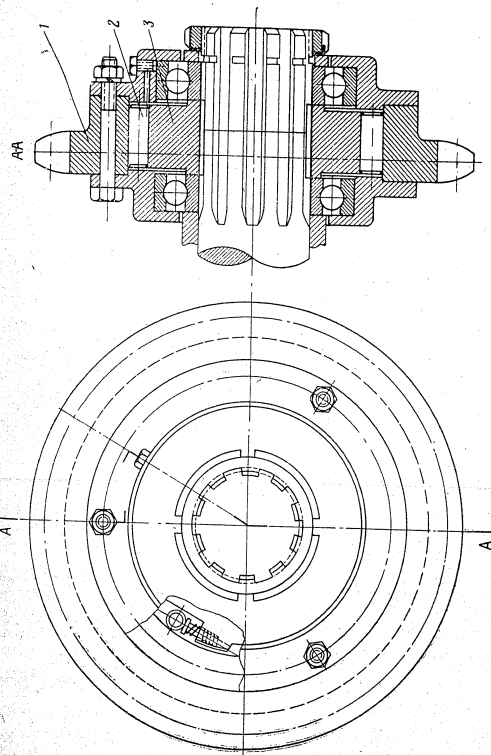

Fig. 2. Roller Overrunning Clutch:
- b) roller overrunning clutch set at the end of the main winch shaft (Fig. 2);